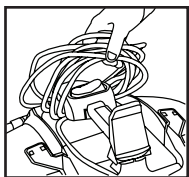

FIGURE 32
55. Grasp the entire cord behind the handle and pull above the rear cord wrap, pull cord towards the front of the vac until the cord becomes disconnected from the front cord wrap. **FIGURE 32.**